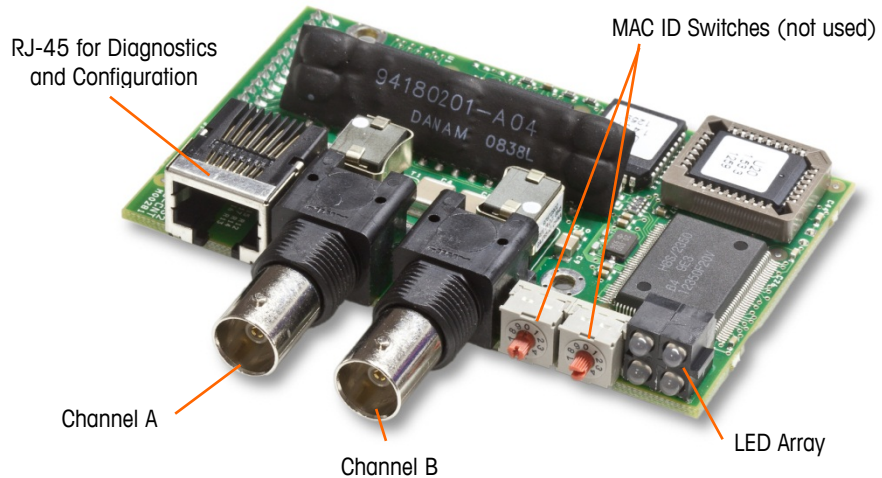
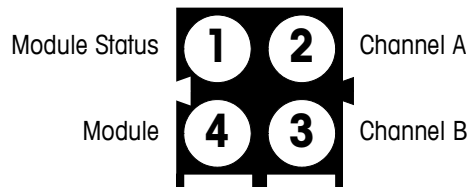

Figure A-81: ControlNet PLC Module Connections and Components
Figure A-82: ControlNet Status Indicator LEDs
The ControlNet PLC Module (Figure A-81) connects to the ControlNet network via one or two coaxial cables (
Figure A-83). Channel B is redundant with Channel A, and is not used unless ControlNet detects no signal on Channel A. Note that the module's address is set in software, and the MAC ID switches indicated in Figure A-81 are not used.
- Do **not** plug an Ethernet cable into the RJ-45 connector shown at left in Figure A-81. Damage to the IND780 Q.iMPACT may result.
Figure A-82 shows the array of status indicator LEDs on the ControlNet card (see also Figure A-81).